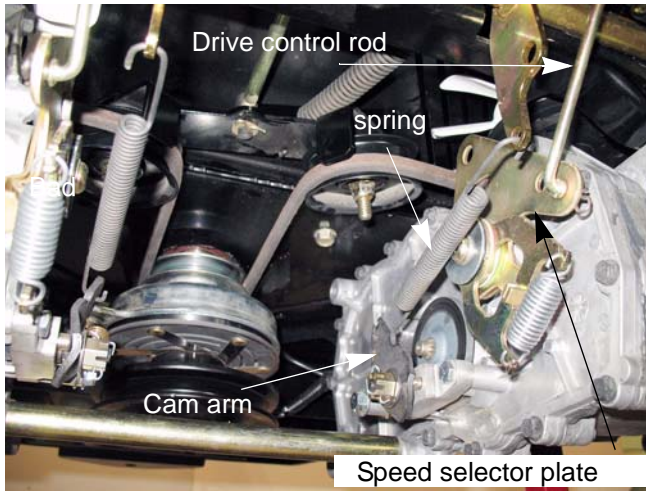

Figure 5.9
4. Disconnect the brake rod spring from the cam arm. See Figure 5.9.